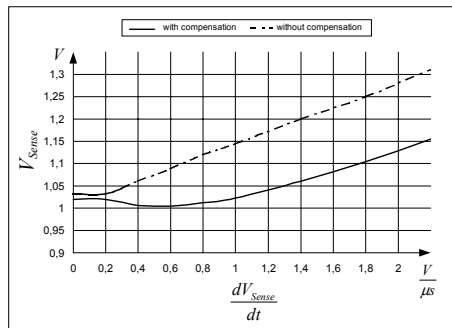

Figure 13 Overcurrent Shutdown
E.g.  $I_{peak} = 0.5A$  with  $R_{Sense} = 2$ . Without Propagation Delay Compensation the current sense threshold is set to a static voltage level  $V_{csth}=1V$ . A current ramp of  $dI/dt = 0.4A/\mu s$ , that means  $dV_{Sense}/dt = 0.8V/\mu s$ , and a propagation delay time of i.e.  $t_{Propagation Delay} = 180ns$  leads then to an  $I_{peak}$  overshoot of 12%. By means of propagation delay compensation the overshoot is only about 2% (see Figure 13).